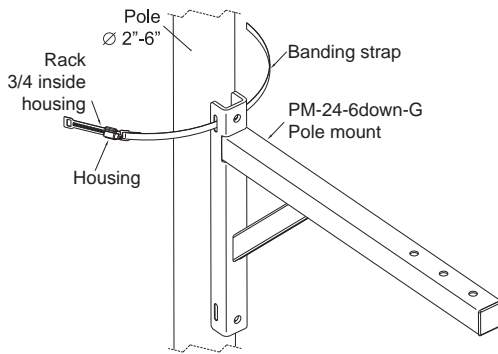

Figure 2
Step 2: Insert the end of the rack into the housing and rotate screw head clockwise using a screw driver until 3/4" of the rack comes out on the other end of the housing (Figure 2).